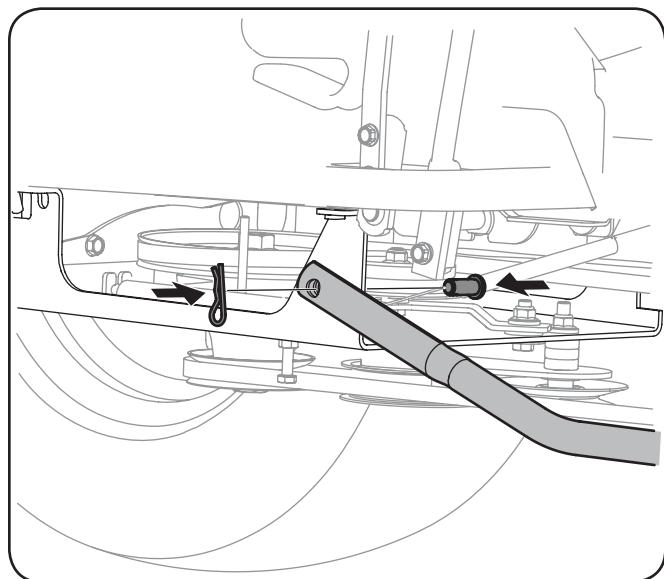

**Figure 3-16**
- Maneuver the auger housing until the mounting holes line up. Insert the two quick release pins from your hardware pack into the top hole on each side as seen in Fig. 3-16.